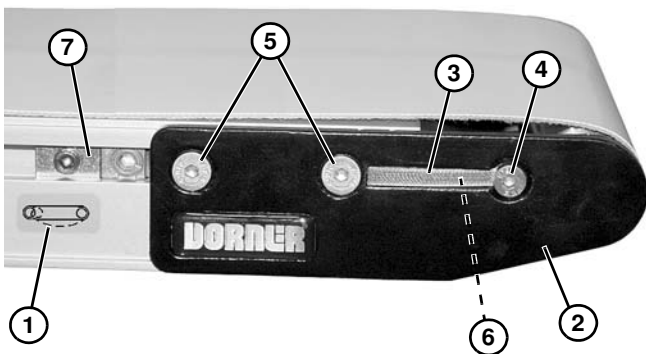

Figure 83
1. On tension end of the conveyor, identified with a  label (**Figure 83, item 1**), adjust head plate assembly (**Figure 83, item 2**):
- a. If equipped with dust covers (**Figure 83, item 3**), remove screw (**Figure 83, item 4**) and dust cover on both sides of conveyor. Reinstall screw (**Figure 83, item 4**).
- b. On both sides of conveyor, loosen fastening screws (**Figure 83, item 5**) and rotate pinion gear (**Figure 83, item 6**) to adjust head plate assembly.
3. After adjusting proper tensioning, tighten fastening screws (**Figure 83, item 5**) on both sides of conveyor to 60 in-lb (7 Nm).
4. If equipped, install dust covers (**Figure 83, item 3**).
5. If equipped with cam tracking assemblies (**Figure 83, item 7**), position against head plates and adjust belt tracking. Refer to "Conveyor Belt Tracking" on page 44.